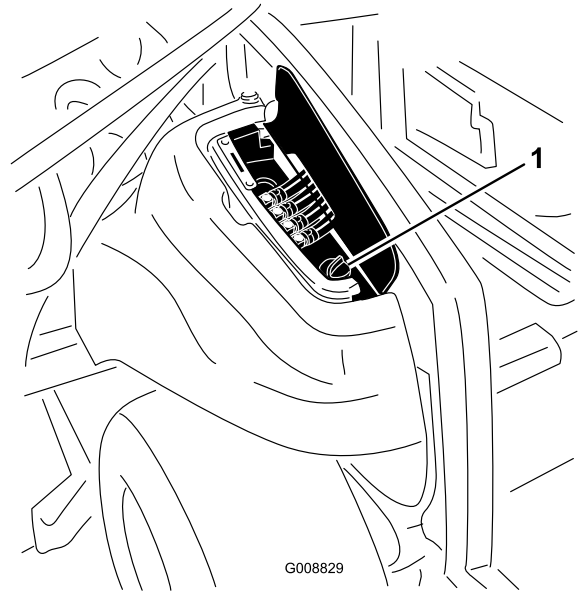

Figure 87
2. On the right side of the machine, raise the access cover to expose the hydraulic tank cap (Figure 87).
3. Clean the area around the filler neck and cap of the hydraulic tank (Figure 87). Remove the cap from the filler neck.